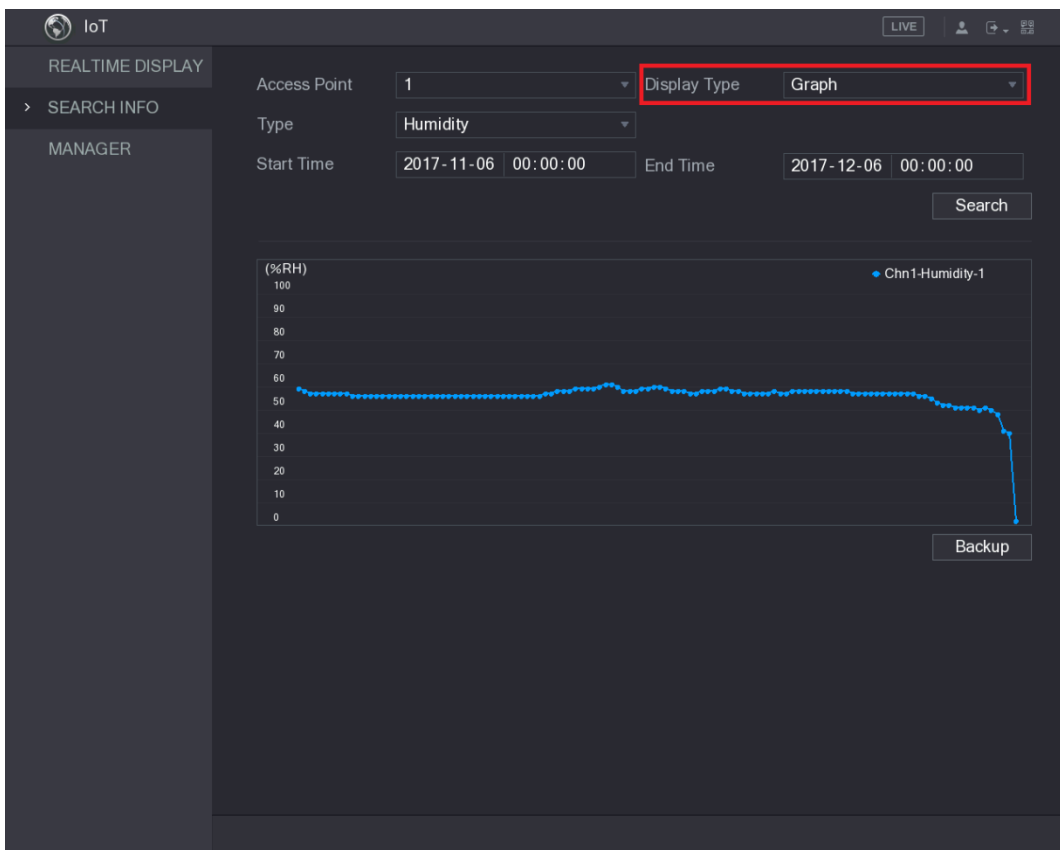

Figure 5-181
- For the data displayed in graph, see Figure 5-181.